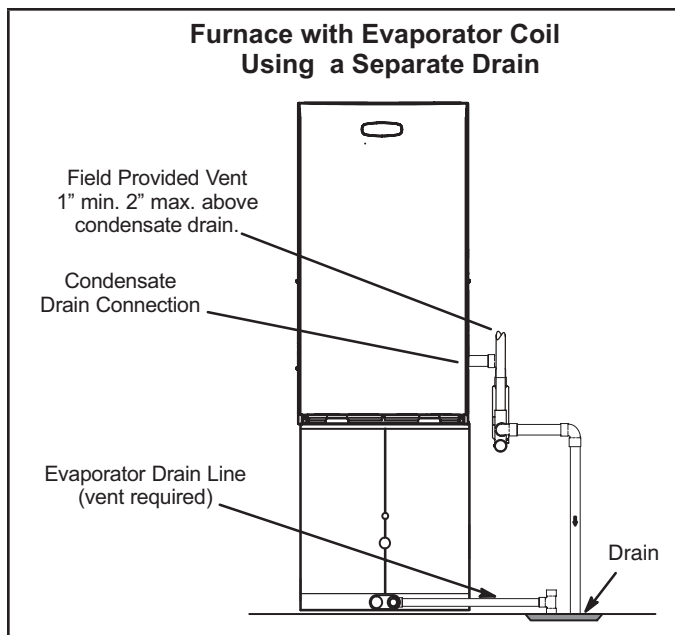
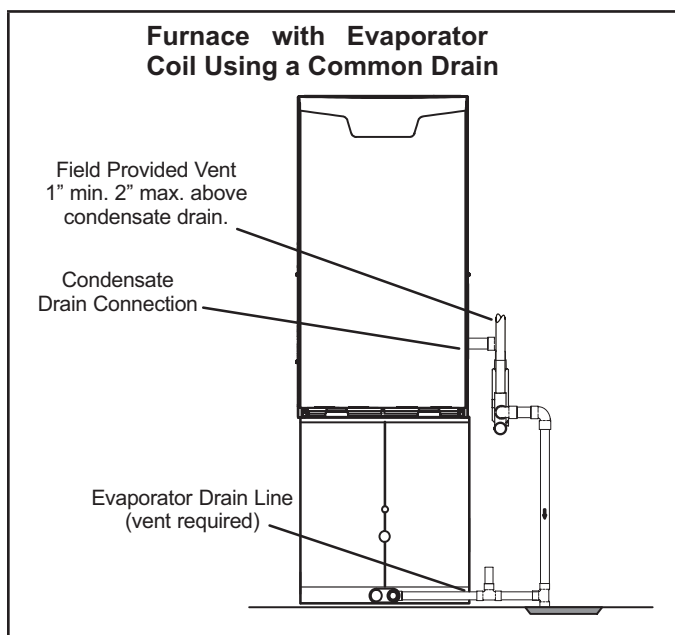

FIGURE 47
FIGURE 48
- 5 - FIGURE 47 shows the furnace and evaporator coil using a separate drain. If necessary, the condensate line from the furnace and evaporator coil can drain together. See FIGURE 48. The field provided vent must be a minimum 1" to a maximum 2" length above the condensate drain outlet connection.